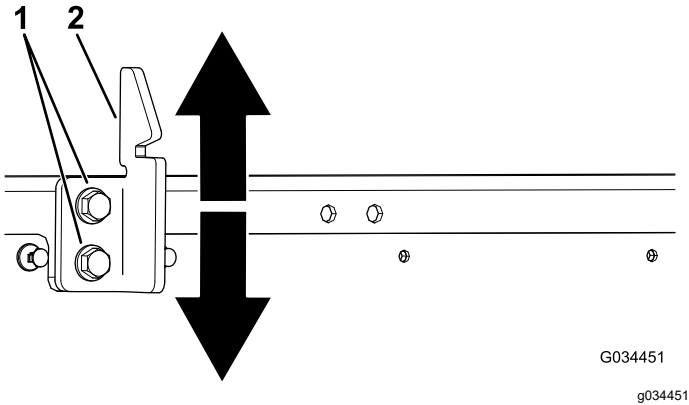

Figure 59
3. Loosen the 2 bolts on the bed-latch striker and move the striker up or down, depending on if the striker is too high or too low (Figure 59).
4. Tighten the 2 bolts on the bed-latch striker (Figure 59).